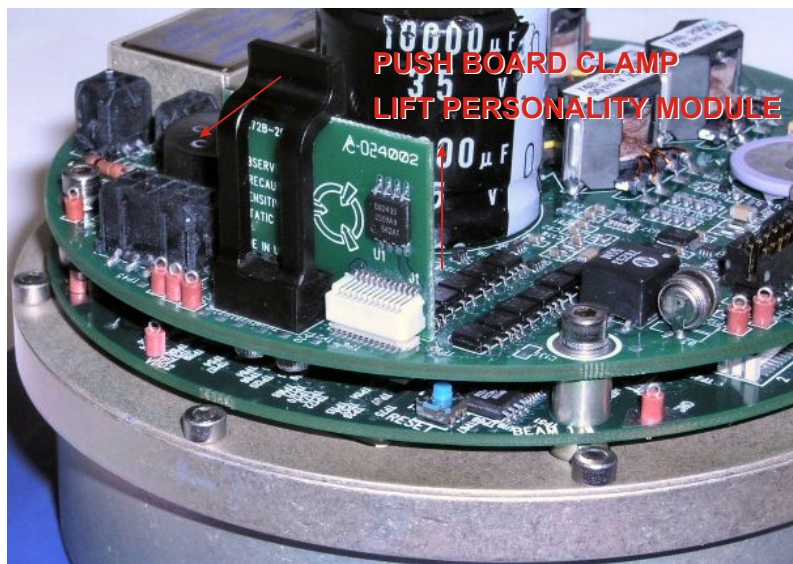

Figure 18. Personality Module
5. With your earth-ground static protection strap on, push the side of the black plastic board clamp toward the edge of the board far enough so the Personality Module can be removed (see Figure 18). Pull out the Personality Module and replace it with the new module. Make sure the board clamp is securely snapped over the new Personality Module.